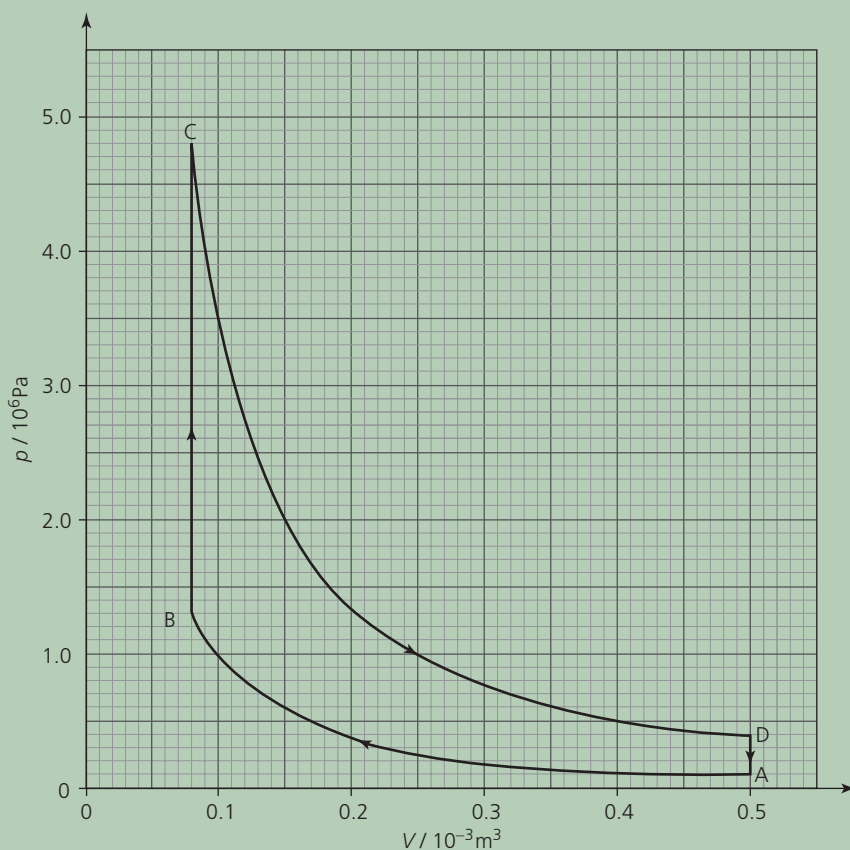

Figure Q1
1. A petrol engine has the idealised p - V diagram (indicator diagram) in Figure Q1, in which a fixed mass of gas (air) is taken through a cycle involving four processes.